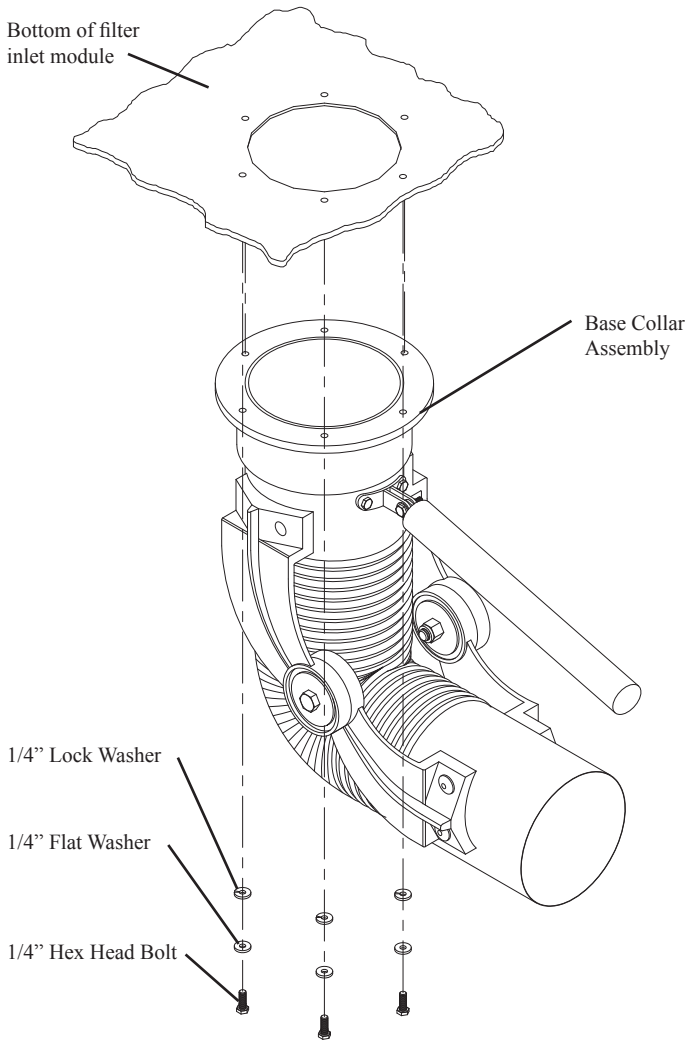

FIG 2
4. Using the 1/4” hardware supplied with each source capture arm, attach the base collar to the bottom of the MC2500 cabinet (Fig. 2).